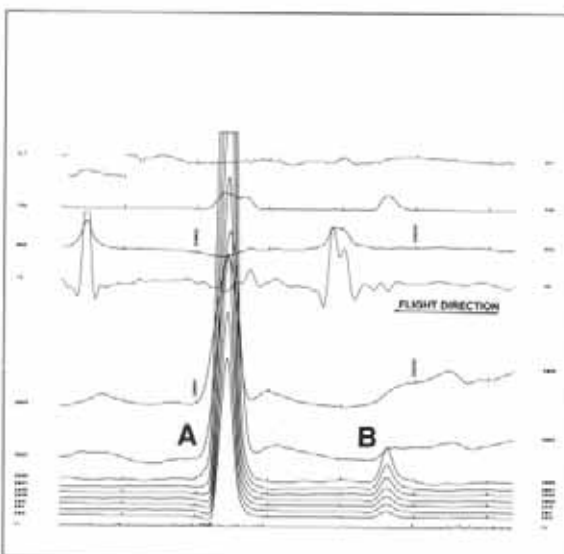

Figure 1. GEOTEM® PROFILE
- Note the pronounced GEOTEM response (anomaly A) recorded over the Point Lake kimberlite (figure 1). The trailing edge **negative** of this anomaly is characteristic of a GEOTEM response over a conductive flat-lying plate.